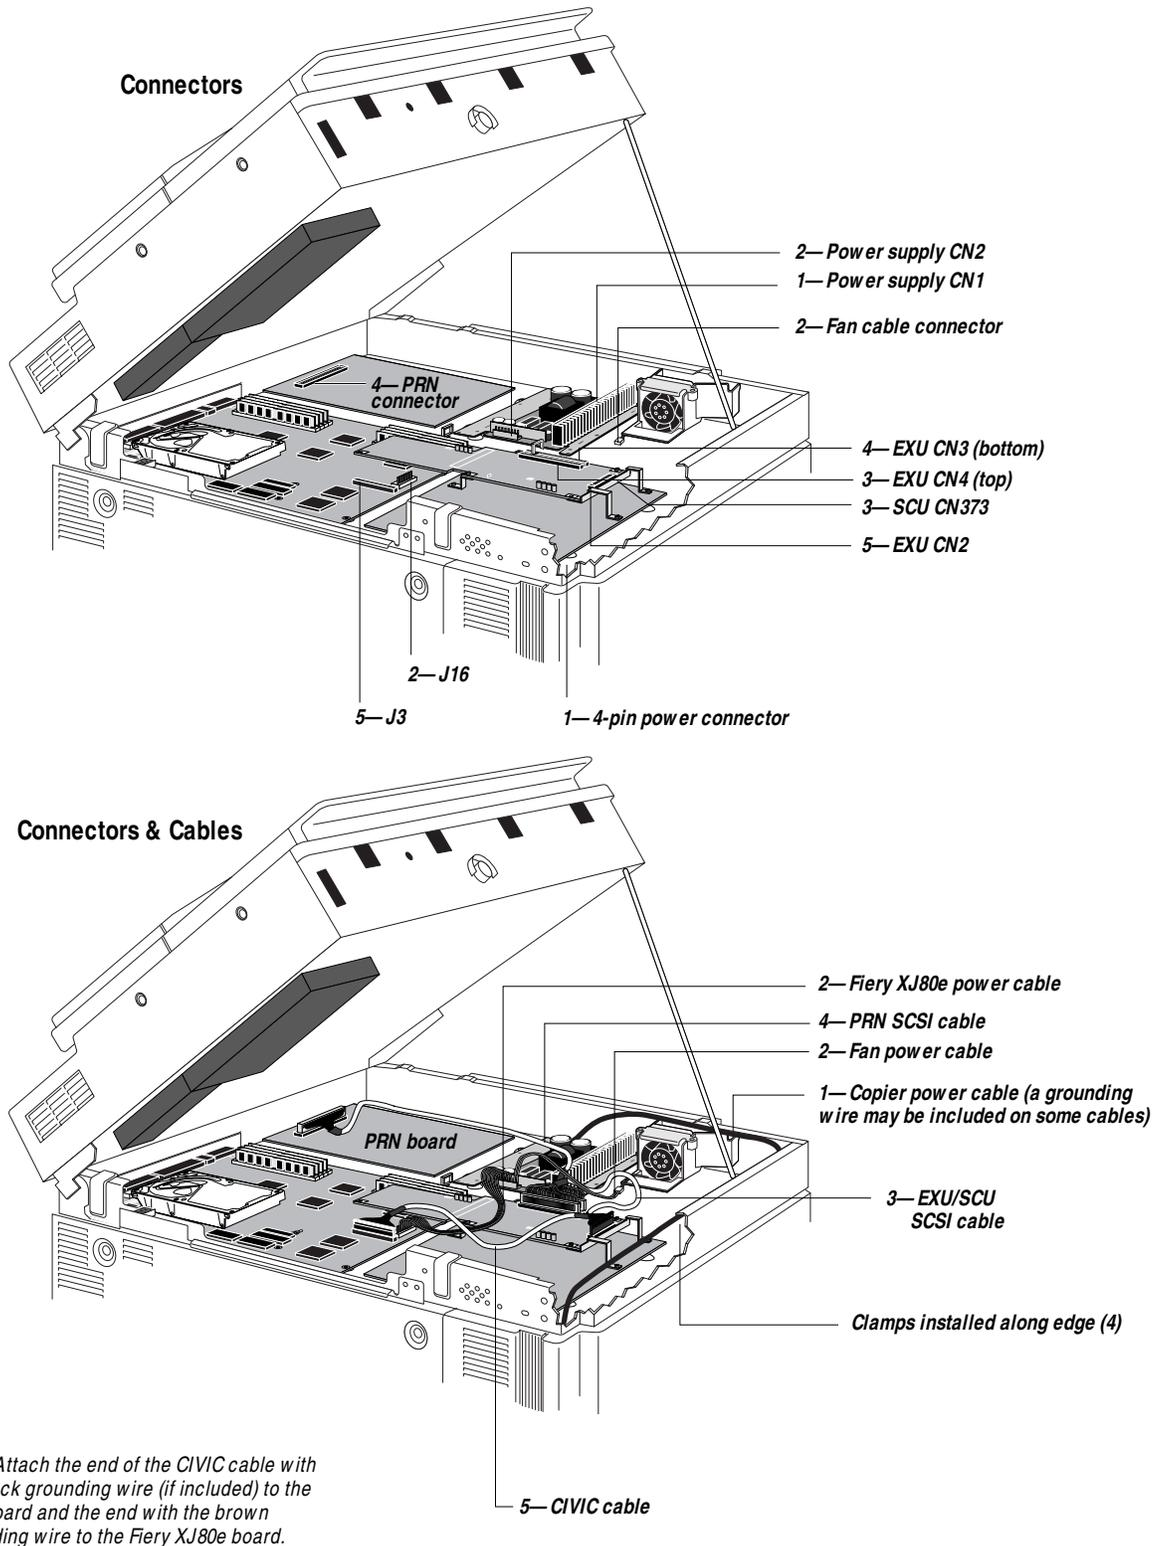

Figure 3-17 Cable connections and ground points
3. **Install the 4 clamps into the holes at the front of the PRN box (see Figure 3-17 on page 3-21).**
4. **Connect the cables as detailed in the following table and Figure 3-17 on page 3-21.**